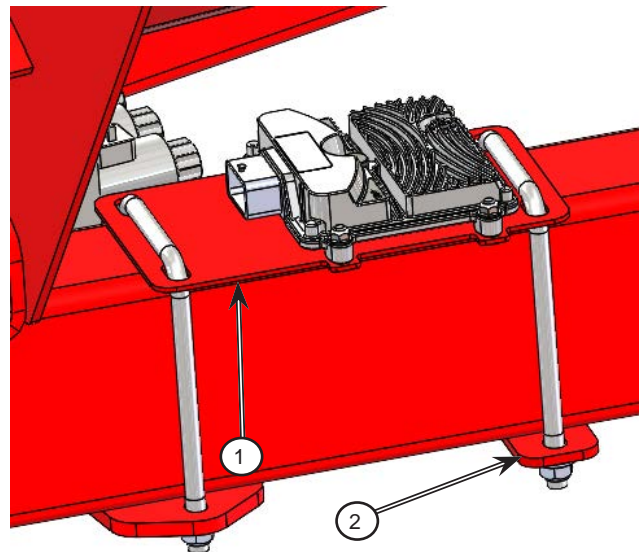

Figure 3: Install the new controller mount
4. Install the controller onto the new mount and install the new mount onto the frame; see *Figure 3*.
- a. Fasten the controller to the mount (1) using $\frac{1}{4}$ " x 1" carriage bolts and $\frac{1}{4}$ " flange lock nuts.
- b. Fasten the mount (1) to the frame using the existing front U-bolt and nuts, as well as a second U-bolt, bolt plate (2) and $\frac{1}{2}$ " flange lock nuts.